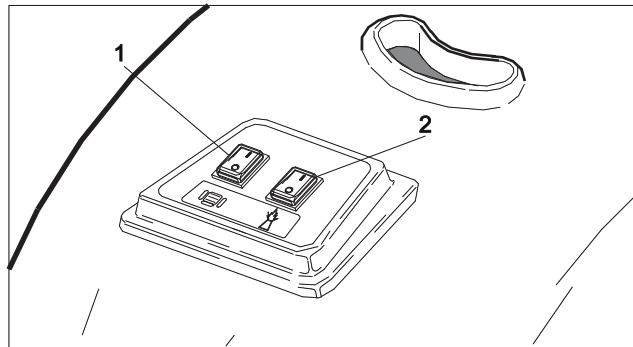
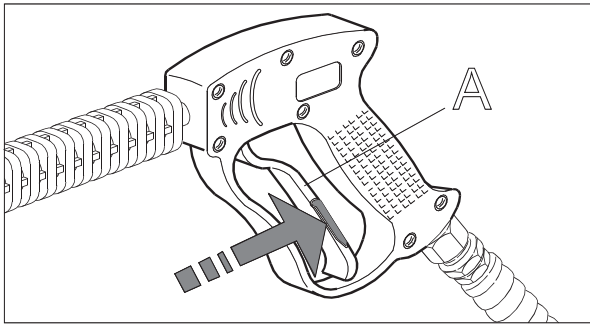

Fig.8
Fig.10
Push the switch (pos.1) of the electric motor at two positions I-O on the position I to permit the cleaner to work with cold water. (See fig.8).
To have hot water, after having switched on the electric motor, push the switch pos. 2 that turns on the burner. (See Fig.8).
To stop the high-pressure cleaner, it is necessary to release the gun lever, pos. A fig. 10, then push the burner switch, pos.2 fig.8 pag.10.
Put the gun safety lever (B) in the lock position to avoid the possibility of the gun accidentally going off the next time it is started, push down to unlock. (See fig.10).